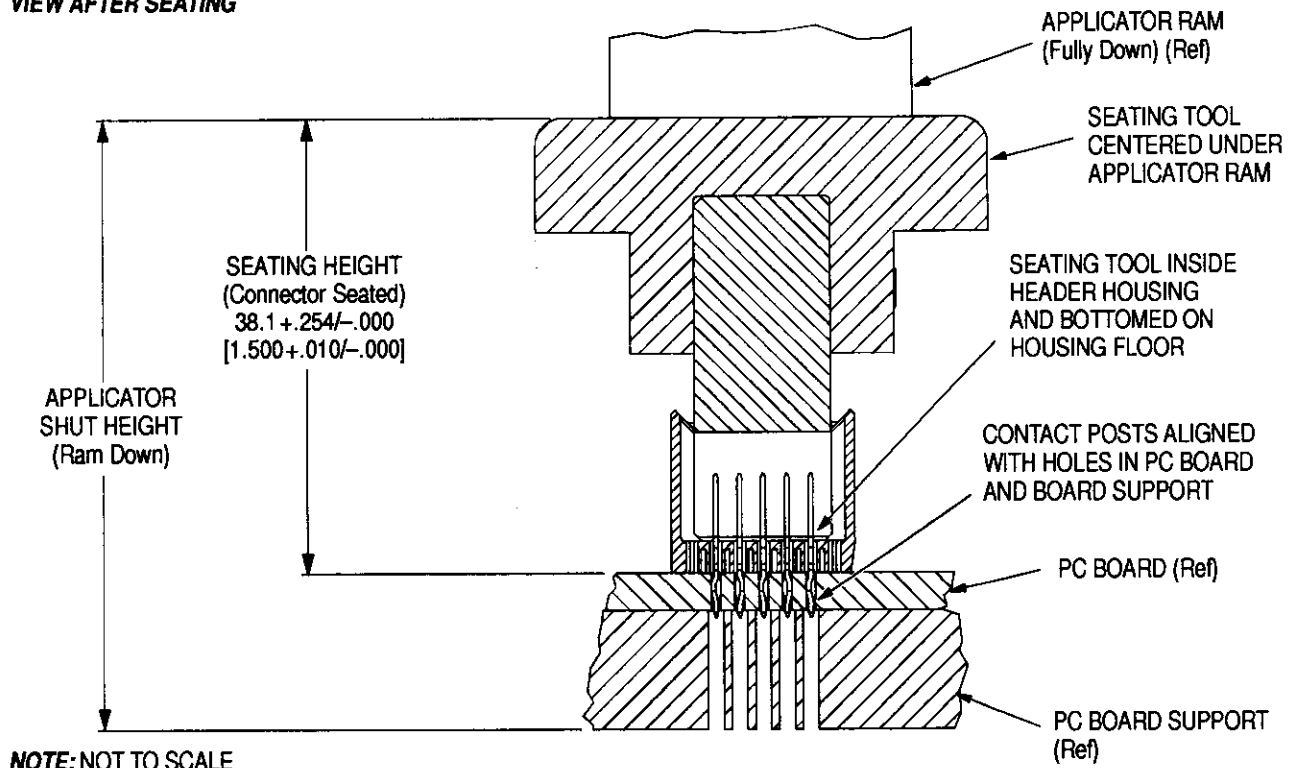

Figure 3
1. Set seating height to the dimension shown in Figure 3. (Applicator *shut height* will equal the seating height PLUS the combined thicknesses of the pc board and board support.)